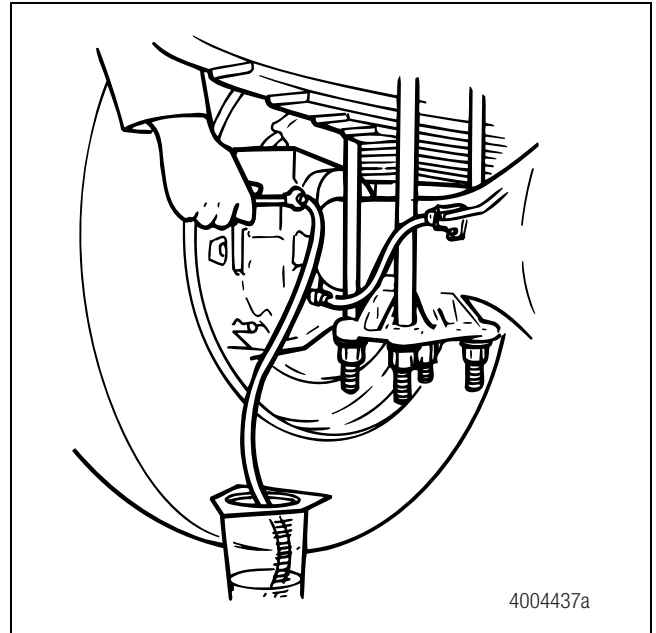

Figure 4.60
- C. Use a wrench to open the bleeder fitting screw. Figure 4.60.